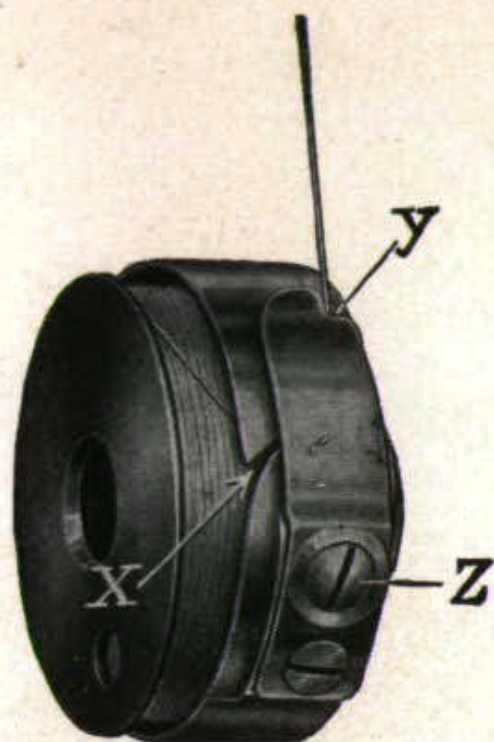

Fig. 11
If the tension is too loose, take the bobbin case out of the machine (Fig. 5), and tighten the small tension screw (Z) in a clockwise direction with the aid of the screw driver. If the tension is too tight, unscrew it in a counter-clockwise direction. (Fig. 11).